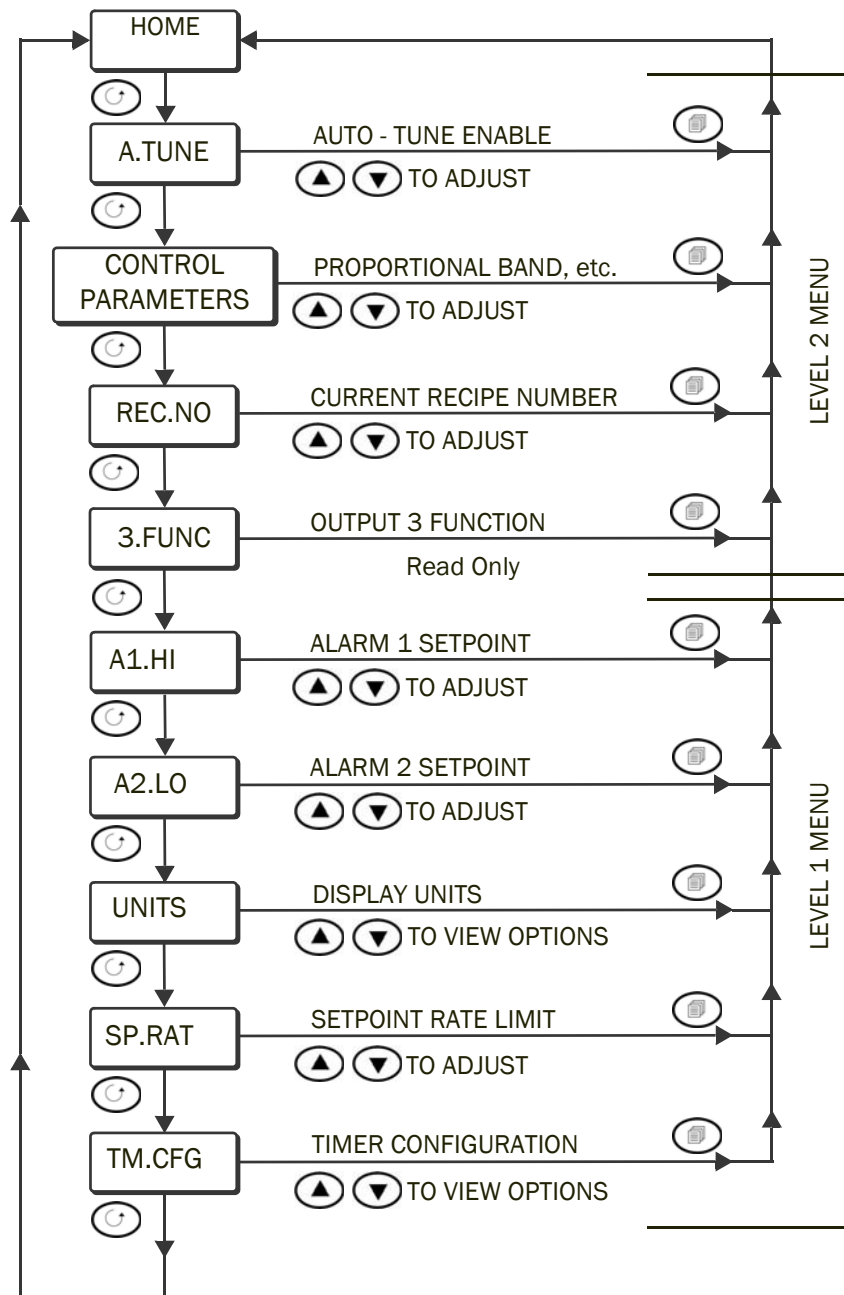

Figure 9. Eurotherm 3208 Controller Level 2 Menu
**Figure 9** illustrates the menu sequence observed when pressing the scroll button . The procedures that follow this section are in the order they appear in the menu. (For level 1 parameters, see **Figure 5**).